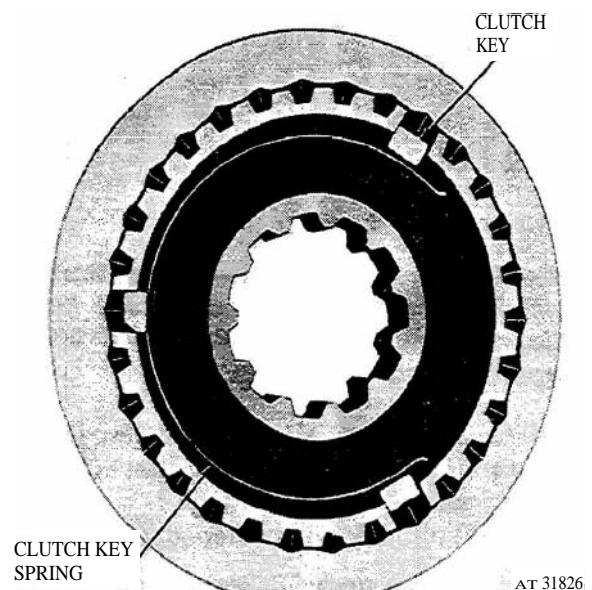

Figure 3-30. Proper clutch key spring installation.
**Caution:** Both clutch key springs (4) must be in same relative position in clutch hub to provide equal tension to each clutch key (17) as shown in figure 3-30.